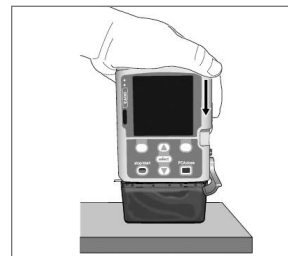

Figure 4: Latching the cassette
4. Place the pump upright on a firm, flat surface. Then, press down on the latch side of the pump so the cassette fits tightly against the pump. See Figure 4.